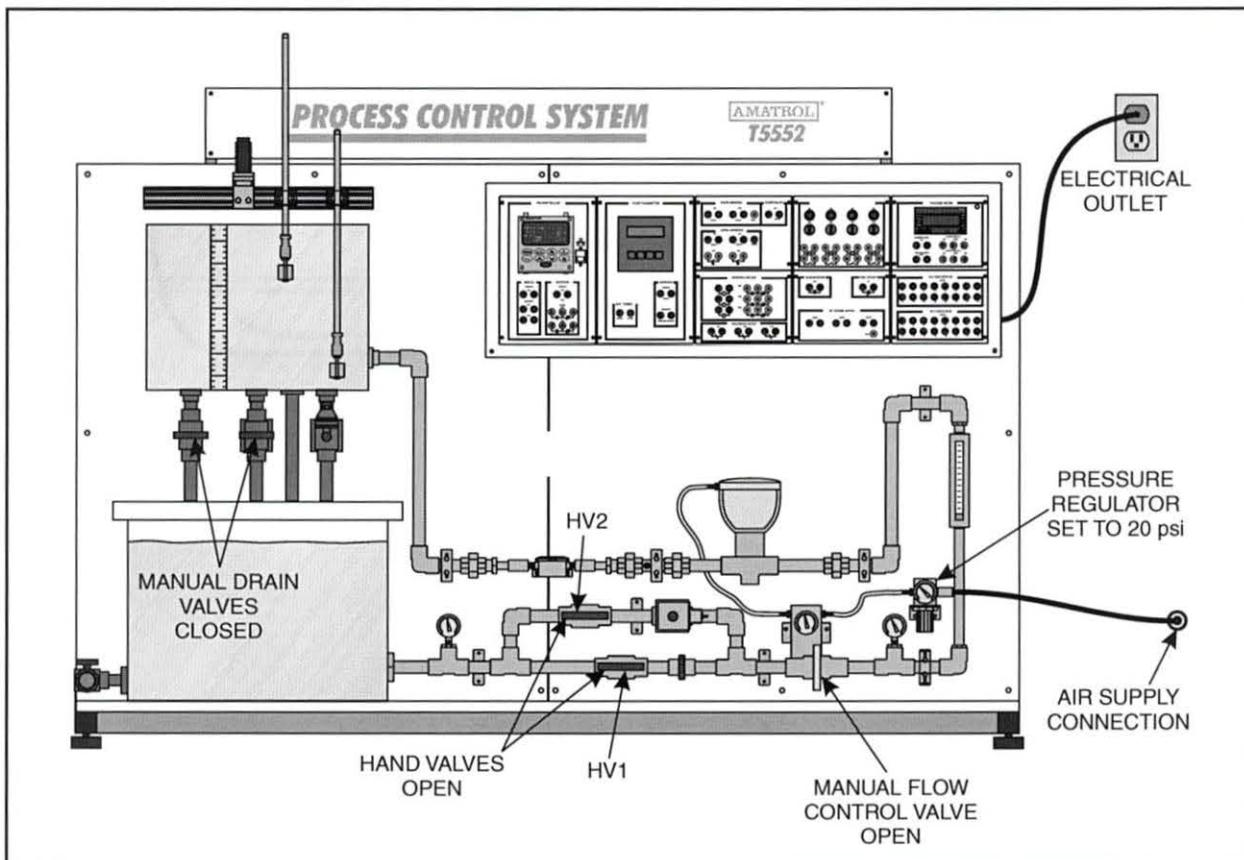

Figure 74. T5552 Setup
- 2. Perform the following substeps to set up the T5552, as shown in figure 74.